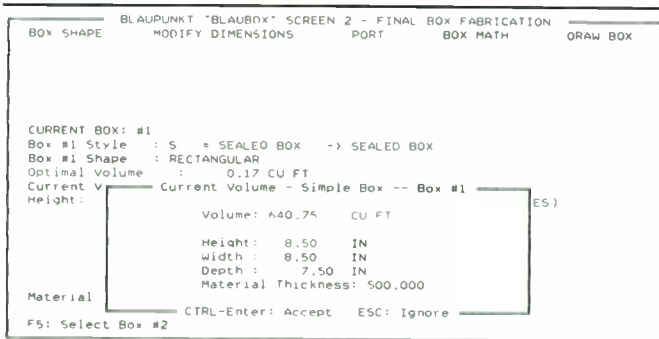

FIGURE 8: MODIFY DIMENSIONS window showing data overflow problem in volume; true volume = -564640.75 ft.³; typed thickness as 500, should be .500.
9. Volume data overflow in MODIFY DIMENSIONS. The input data ranges are so large in this window that it is possible to generate designs with negative volumes. The window truncates the volume display so you may not know it is negative until you accept it and return to Screen #2 (Fig. 8).